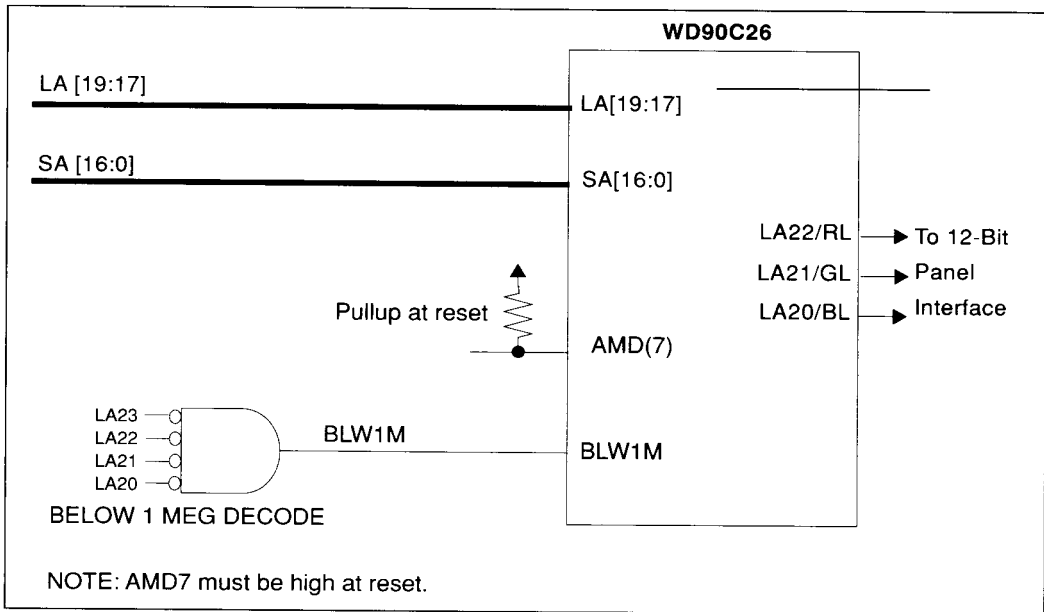

FIGURE 6-25 USING BLW1M WHEN CONNECTING A 12-BIT RGB PANEL INTERFACE
- Using BLW1M when Connecting a 12-Bit RGB Panel Interface (Figure 6-25)